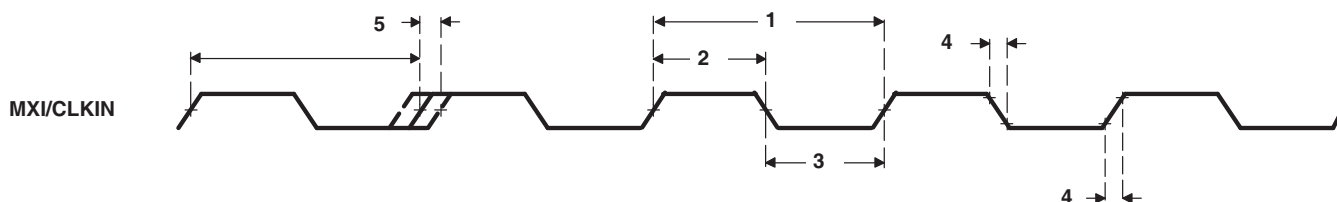

**Figure 6-12. MXI/CLKIN Timing**
**Table 6-19. Timing Requirements for MXI/CLKIN (1)(2)(3)(4) (see Figure 6-12)**